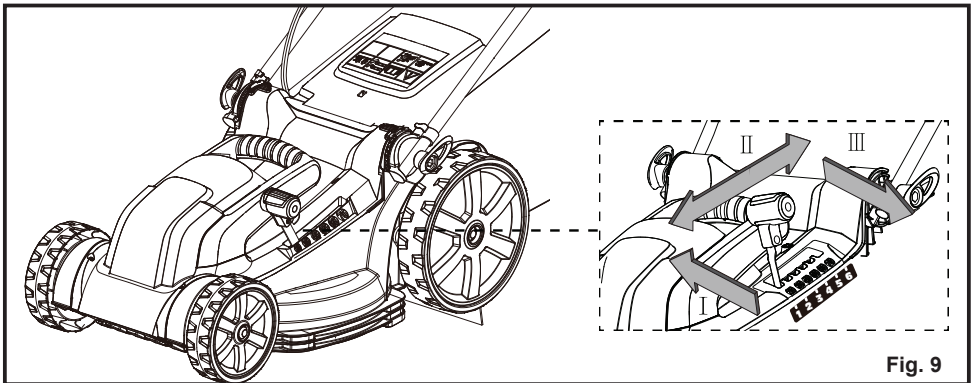

Fig. 9
1. To raise the cutting height, grasp the cutting height adjustment lever and move it toward the back of the mower (Fig. 9).
2. To lower the cutting height, grasp the cutting height adjustment lever and move it toward the front of the mower (Fig. 9).